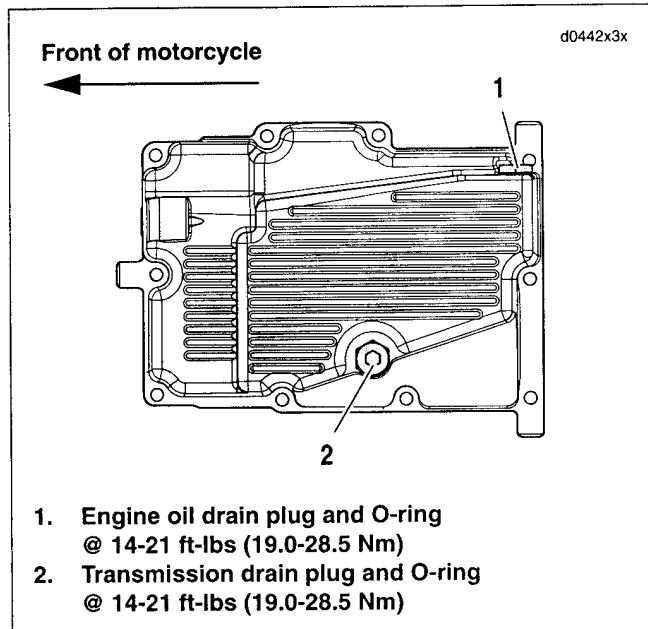
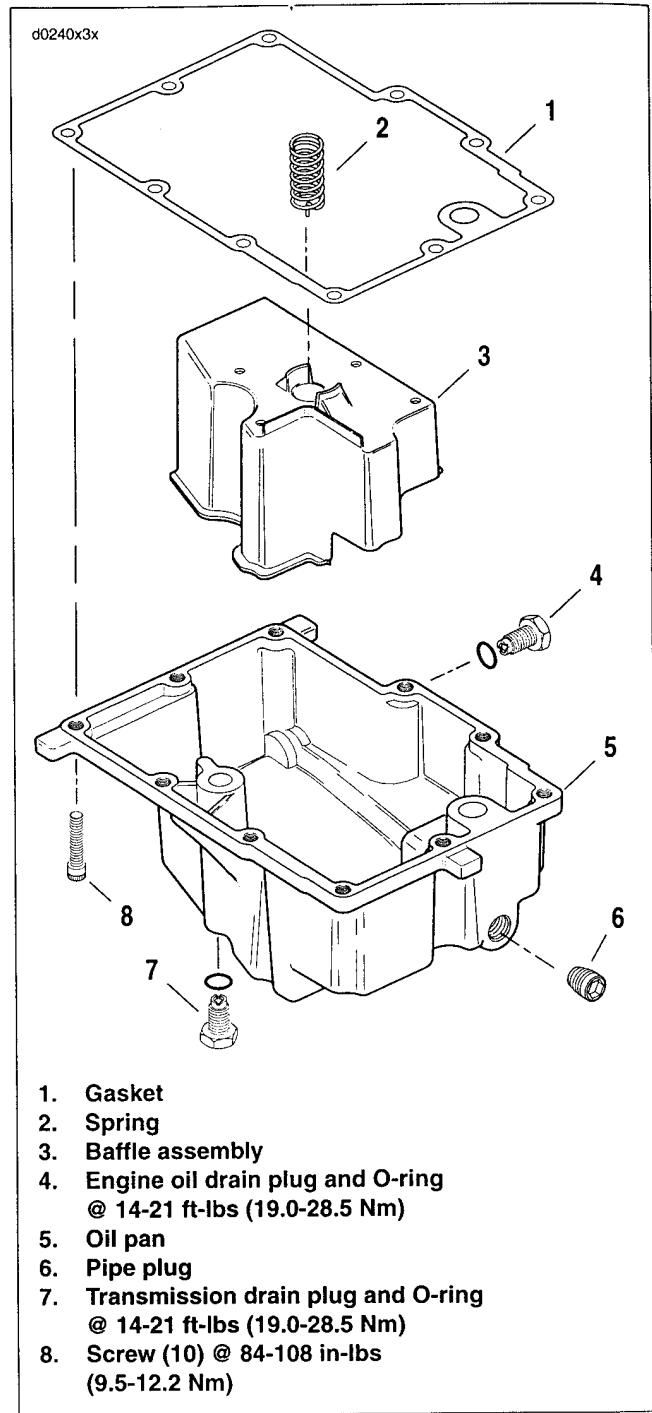

Figure 3-165. Drain Plugs
Figure 3-166. Dyna Glide Oil Tank
2. See Figure 3-165. Drain fluids from oil pan.
- a. Remove engine oil drain plug (1), fill plug/dipstick and oil filter. Drain oil into suitable container. See 1.4 ENGINE OIL AND FILTER.
- b. Remove transmission drain plug (2). Drain transmission fluid into suitable container. See 1.13 TRANSMISSION LUBRICANT.
3. See Figure 3-166. Remove ten screws (8) that secure the oil pan to the transmission housing.
4. Remove oil pan (5) and gasket (1). Discard gasket.
5. Remove baffle assembly (3) and spring (2) from oil pan.
2. See Figure 3-166. Insert baffle assembly (3) and spring (2) in oil pan.
3. Place new gasket (1) on oil pan.